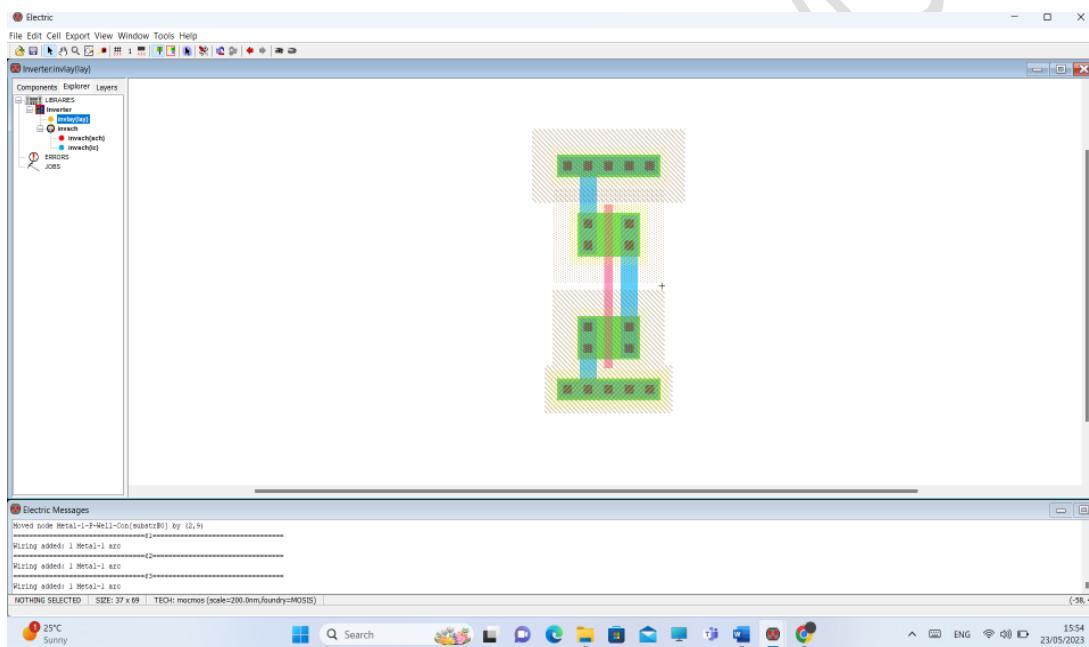

Figure 1.40: Make the connection between all components.
7. Connect all components as shown in Figure 1.40.